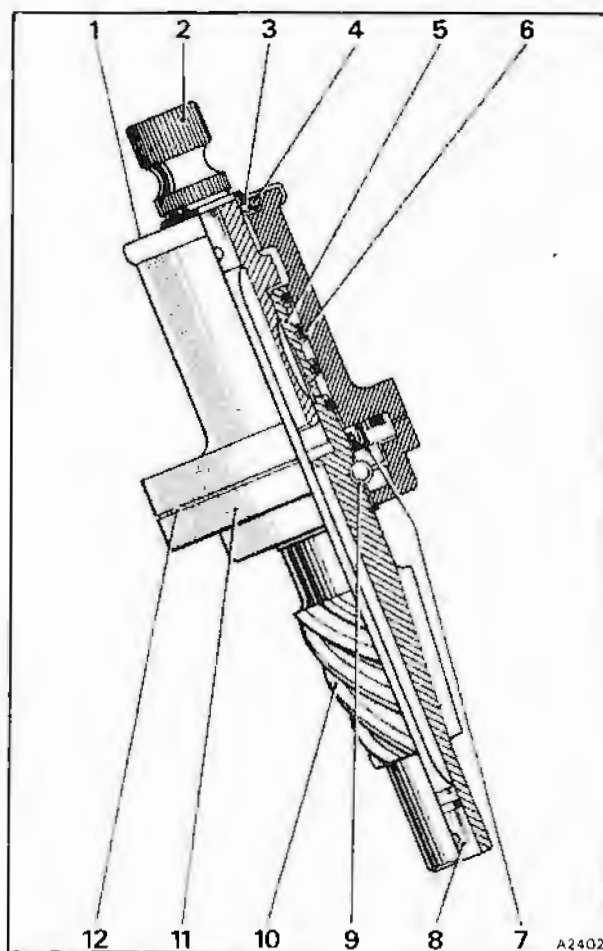

Fig. N2-6 Pinion and spool valve unit
3. Fit a new upper 'O' ring and oil seal ensuring that the sealing lip is pointing downwards (see fig. N2-6).